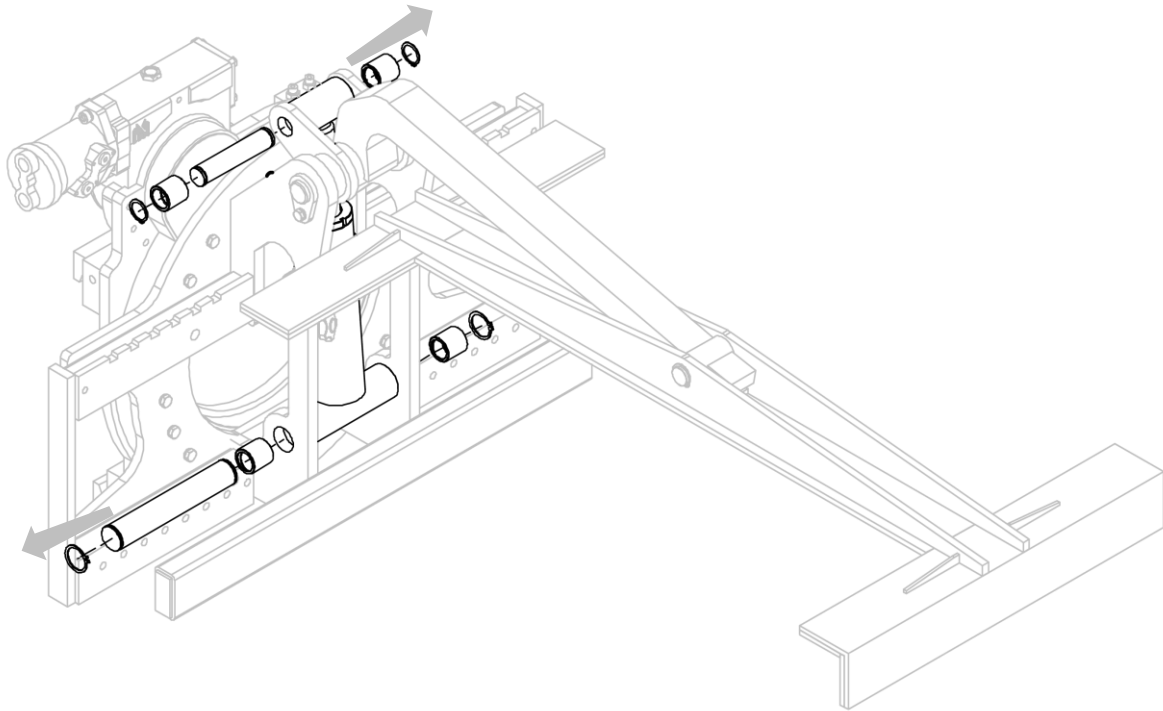

Figure 19
4. Use *Figure 19* as a guide.